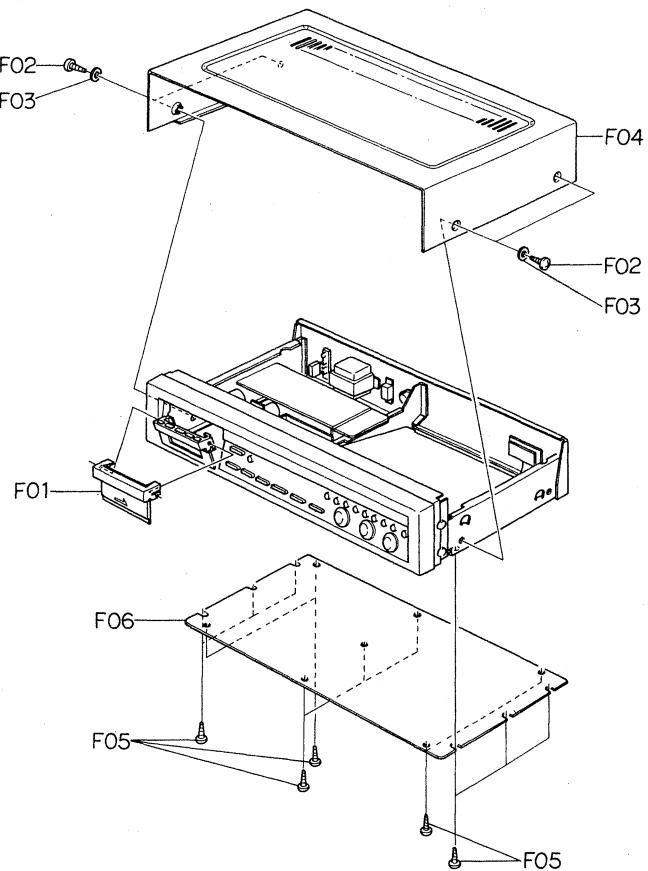

Fig. 3.1
Refer to Fig. 3.1.
- (1) Refer to Fig. 3.1. Remove Top Cover Ass'y and Bottom Cover Ass'y referring to items 3.1 and 3.2.
- (2) Remove F01 (Volume Knob) by pushing with a screwdriver or similar tools from the inside of the N-580M.
- (3) Remove F02, then disassemble F03 (Front Panel Ass'y including 2 connectors).
- (1) Refer to Fig. 3.1. Remove Top Cover Ass'y and Bottom Cover Ass'y referring to items 3.2 and 3.3.
- (2) Remove F01, F02 and F03, then disassemble F04 (Rear Panel Ass'y).
- (2) Remove F05, F06 and F07, then disassemble F08 (Power Transformer).